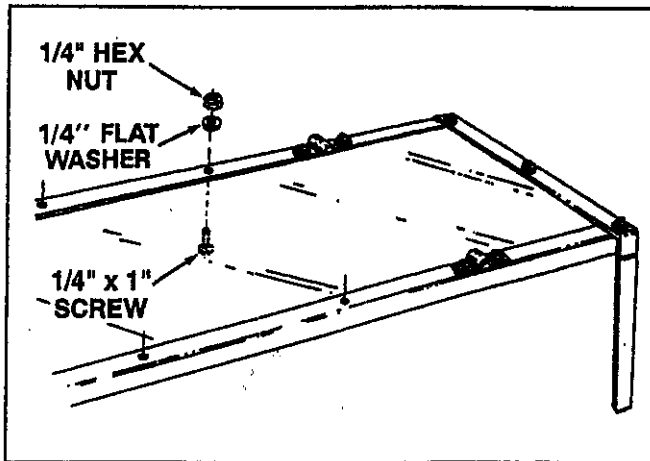

FIGURE 4
- Secure both side angle assemblies to the bottom panel using four $1/4"$ x $1"$ screws, flat washers and hex nuts. Make only finger tight until all four screws are in place, then tighten securely. See figure 4.